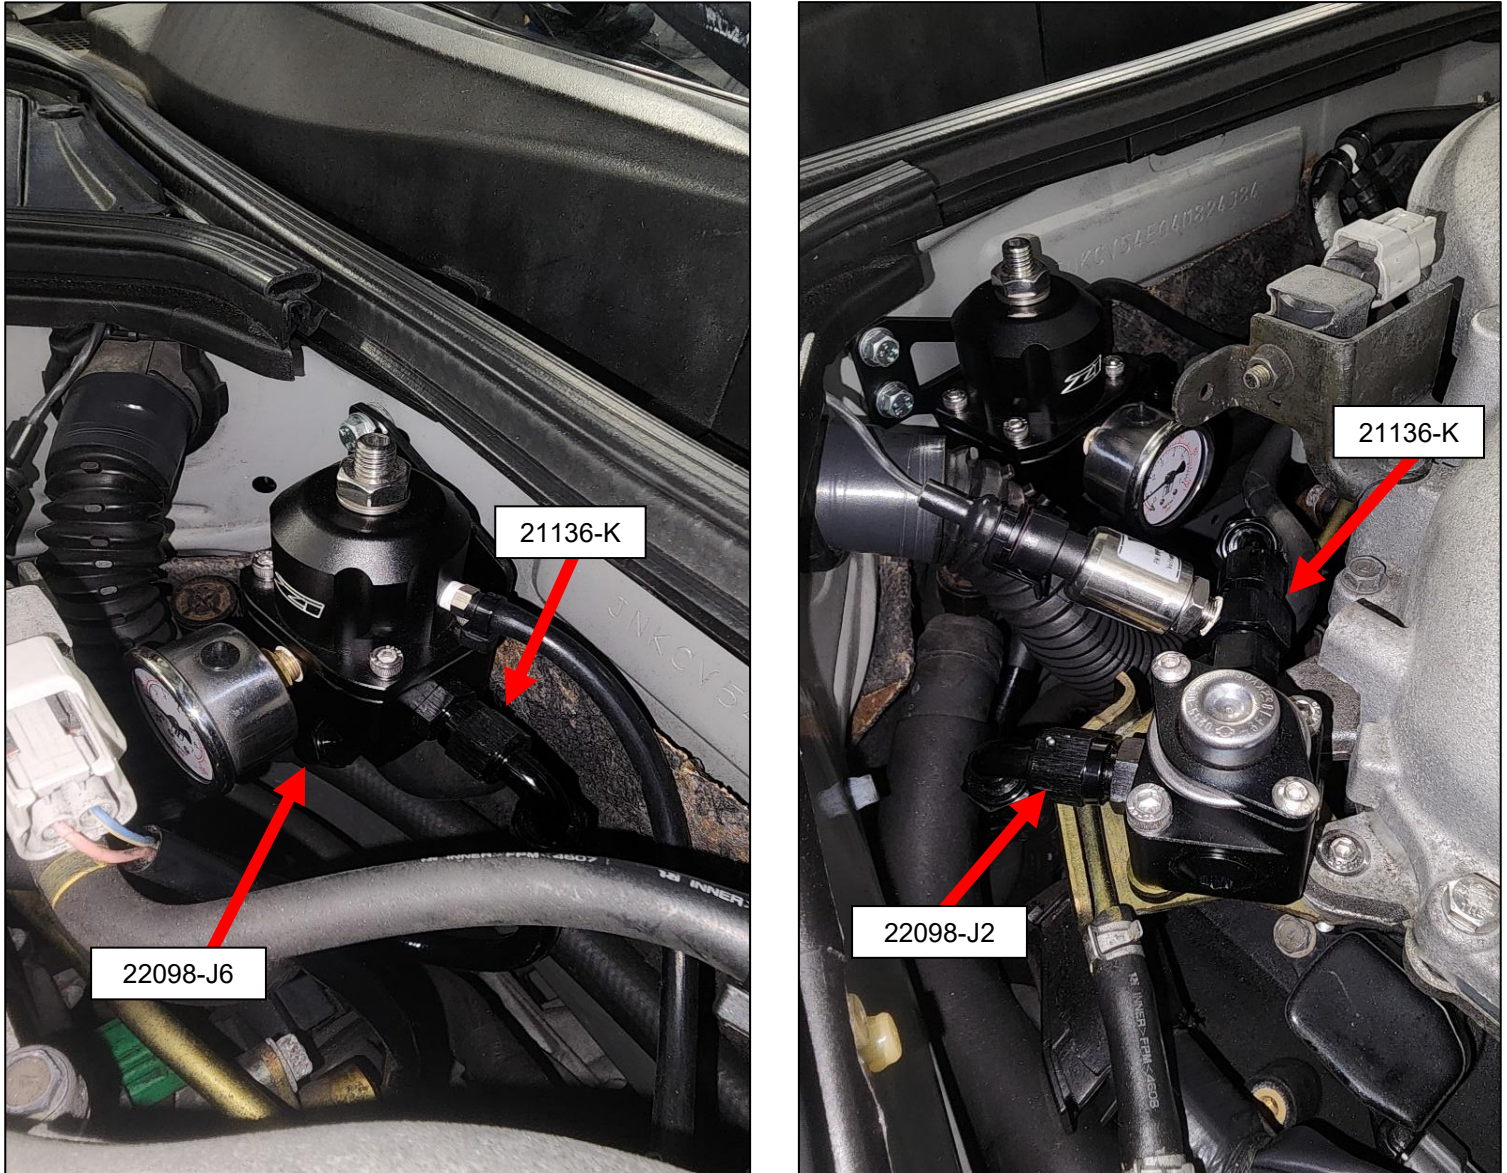

Figure 59
17. Connect the 90° End of **22098-J2** to the INLET of the Fuel Damper. *Figure 59.*
18. Locate Line **21136-K**. Connect the 45° End to the Fuel Damper OUTLET. *Figure 59.*
19. Connect the 90° End of **21136-K** to the INLET of the Fuel Pressure Regulator. *Figure 59.*
20. Locate Line **22098-J6**. Connect one end to the Fuel Pressure Regulator RETURN PORT. *Figure 59.*
21. Connect the other end of **22098-J6** to the FACTORY FEED LINE. *Figure 59.*